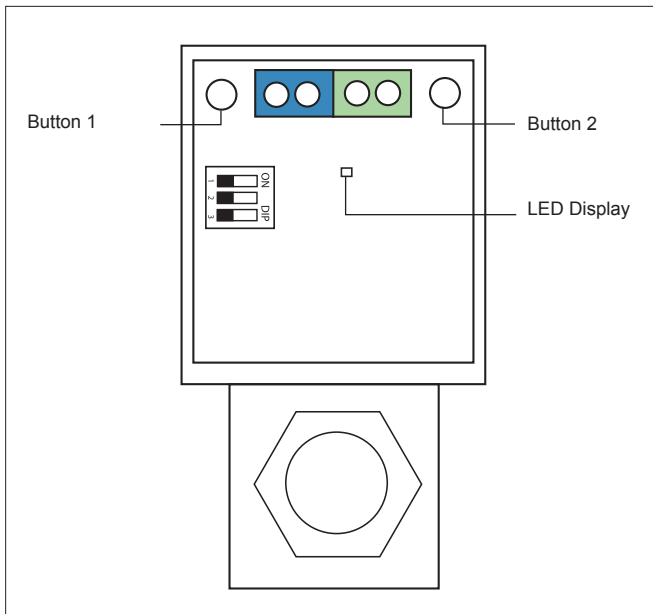

Figure 5: EXA Valve Adjustment Controls
The Exa valve has two (2) buttons and an LED for the user interface. The buttons are used to set the valve for high and low fire settings (see figure 5).